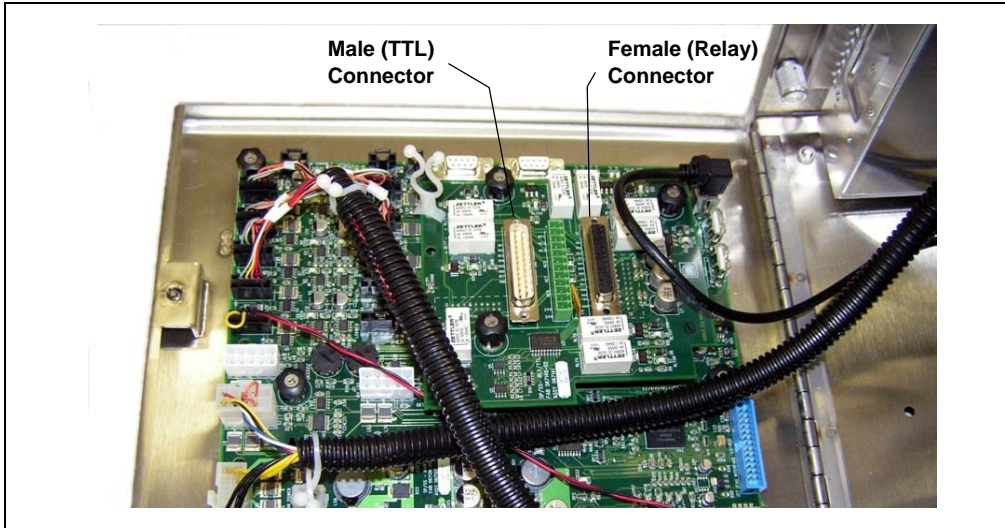

Figure C-8. TTL/Relay Controller Board Installed on SP Electronics Board
1. Plug one end of the male-to-male relay cable into the male connector on the TTL/relay controller board on the SP door (see Figure C-8).
- **To connect directly to the SP TTL/Relay Controller Board:** Plug the breakout boards into their corresponding connectors on the board (see Figure C-8).